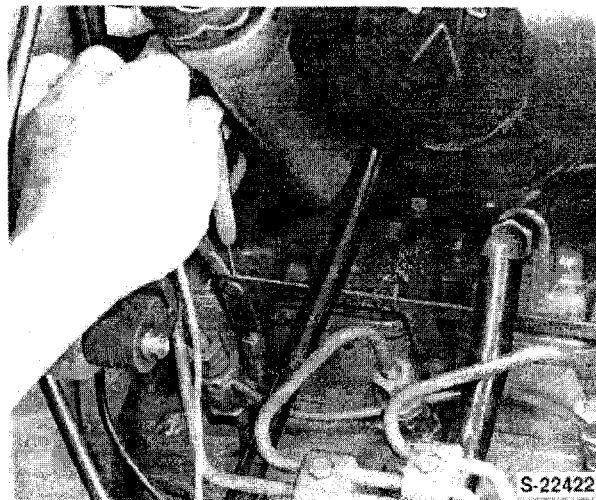

Figure 20
2. Connect the remaining ohmmeter lead to each of the other glow plug nuts and observe the ohmmeter reading, Figure 20.